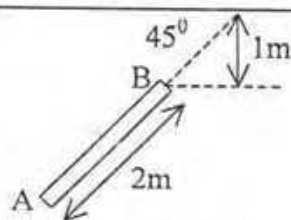

Figure 5
- b. Calculate the total pressure and the depth of the center of pressure on the inclined gate AB shown in Figure 5, the width of the gate perpendicular to the plane of paper is one metre. 8